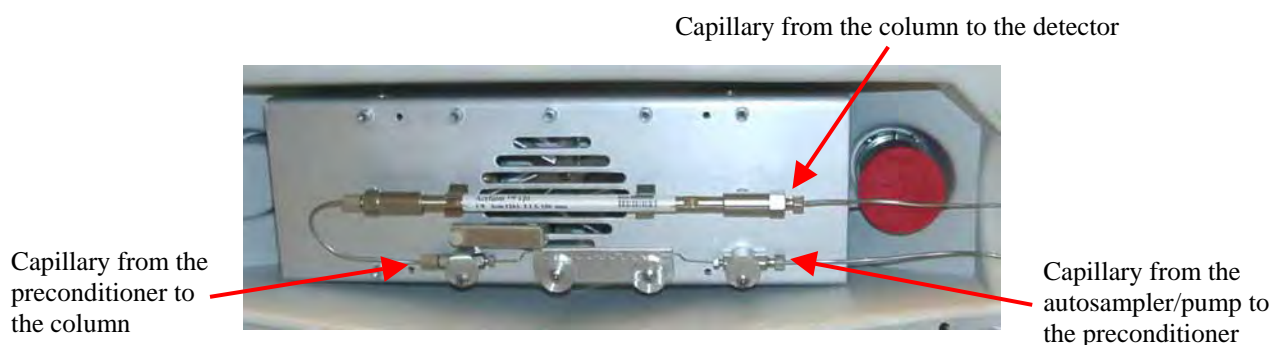

Fig. 17: Eluent preconditioner with the capillaries connected (example)
- Connect the capillary from the autosampler or pump to the preconditioner inlet, connect the preconditioner outlet to the column and then, connect the column outlet to the detector (→ Fig. 17, page 18).